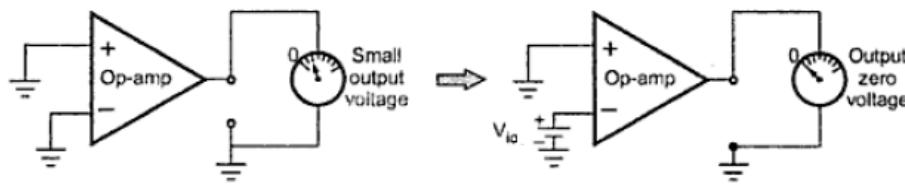

Figure 3.9: Input offset voltage
4. **Input offset voltage ( $V_{io}$ ) :** Whenever both the input terminals of the op-amp are grounded, ideally, the output voltage should be zero. However, in this condition, the practical op-amp shows a small non zero output voltage. To make this output voltage zero, a small voltage in millivolts is required to be applied to one of the input terminals. Such a voltage makes the output exactly zero. It is the voltage that must be applied between the two input terminals such that the output voltage becomes zero. This is shown in Figure 3.9